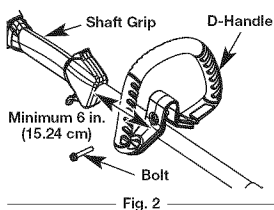

Fig. 2
1. Push the D-handle down onto the boom (Fig. 2), so that the bolt hole in the D-handle is to the right.
2. While holding the unit in the operating position (Fig. 2), move the D-handle to the location that provides the best grip. Place it a minimum of 6 inches (15.24 cm) from the end of the shaft grip.
3. Tighten the bolt until the D-handle is secure. (Fig. 2)